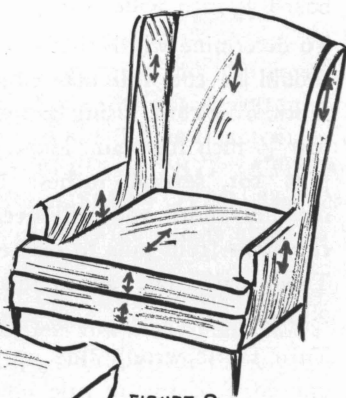

FIGURE 9
2. Observe LENGTHWISE THREADS of fabric for each section. Note figure 9.